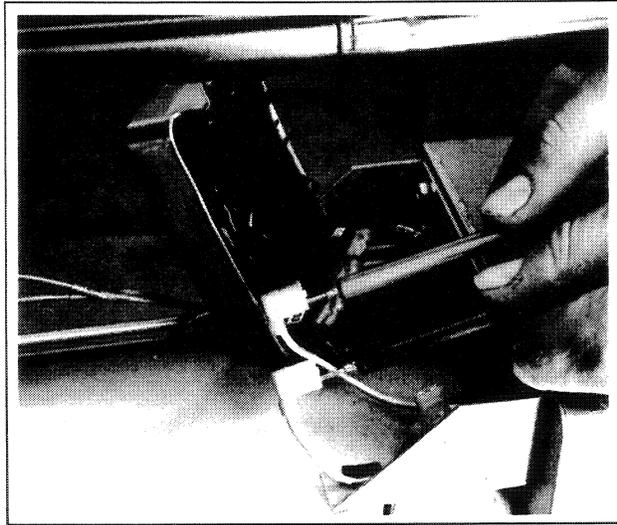

Figure 2-6. Connecting Battery Power to Voltage Regulator Leads
3. Using a 6-volt lantern battery or a 12-volt automotive battery, attach battery positive (+) lead to voltage regulator positive (+) lead and battery negative (-) lead to voltage regulator negative (-) lead. Figure 2-6. Connect a DC amp meter in series with the circuit.